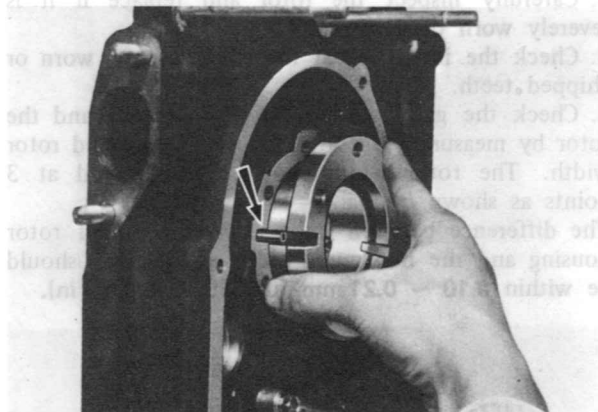

Fig. 1-34 Installing stationary gear
4. Press in the stationary gear to the housing with the **main bearing replacer** (49 0813 235), aligning the slot of the stationary gear flange and the dowel pin on the housing, as shown in Fig. 1-34.